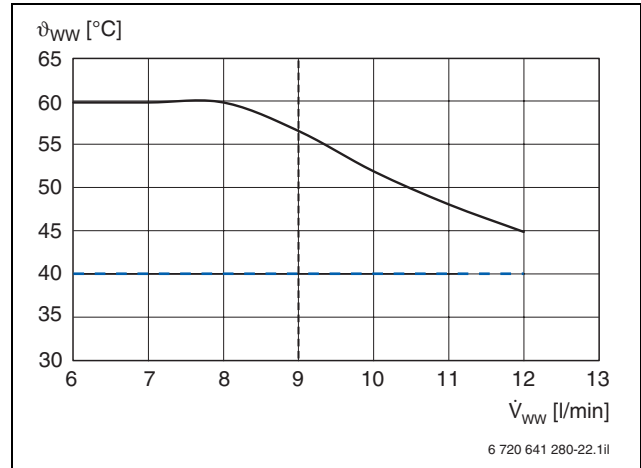

Fig. 55 Constant DHW output at a cold water inlet temperature of 10 °C
- High constant DHW output (→ Fig. 55) of 29.7 kW